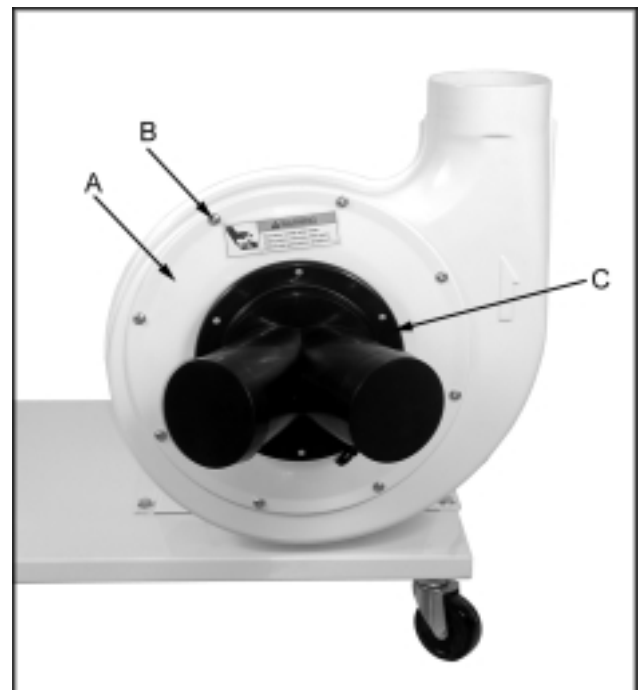

Fig. 3
3. Attach inlet guard (A, Fig. 3) to fan housing using eight M5 x 12 pan head screws (B, Fig. 3). Press the inlet ports onto the inlet guard until it snaps into place.